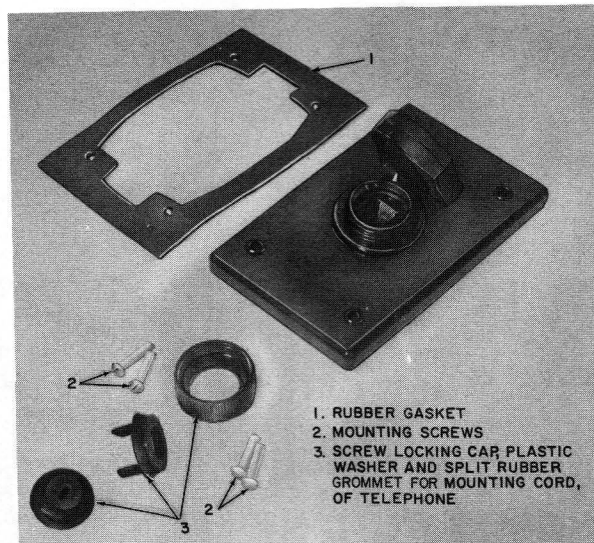

Fig. 9—625WP Connecting Block
2.17 The **625WP** connecting block (Fig. 9) is for use in outdoor locations and where severe environmental conditions exist. It is intended to mount on a B outlet box AT-8732. A gasket is provided to seal the faceplate assembly and box. A plastic screw-on cap, plastic washer, and split rubber grommet is provided to seal the connection between the telephone mounting cord and jack. ♦It is not intended for use at marinas or for recreational vehicle service.♦
3.13 625WP Connecting Block: This block (Fig. 9) should be mounted on a B outlet box or equivalent. A parts package is provided with the 625WP connecting block consisting of a rubber gasket and four mounting screws to seal the mounting block to the outlet box. Also provided is a plastic screw-on cap, a plastic washer, and a split rubber grommet. The cap, washer, and grommet are installed on the mounting cord of the telephone to be used with the jack to seal out moisture. See Table B for appropriate fastener.